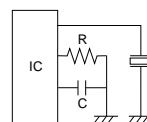
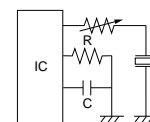

Fig.1
Fig.2
- (1) When capacitors or resistors are used to change the phoning frequency, the timbre may be distorted. (See Fig. 1)
- (2) Various types of Ringer ICs are made by various manufacturers. Please refer to us or the IC manufacturer for IC application.
- (3) When distortion, as on (1) above, has occurred, a resistor should be used as shown in Fig. 2. A suitable resistance value should be chosen, preferably 1kΩ - 2kΩ. Instead of this is measure, a diode may also be applied as shown in Fig. 3.